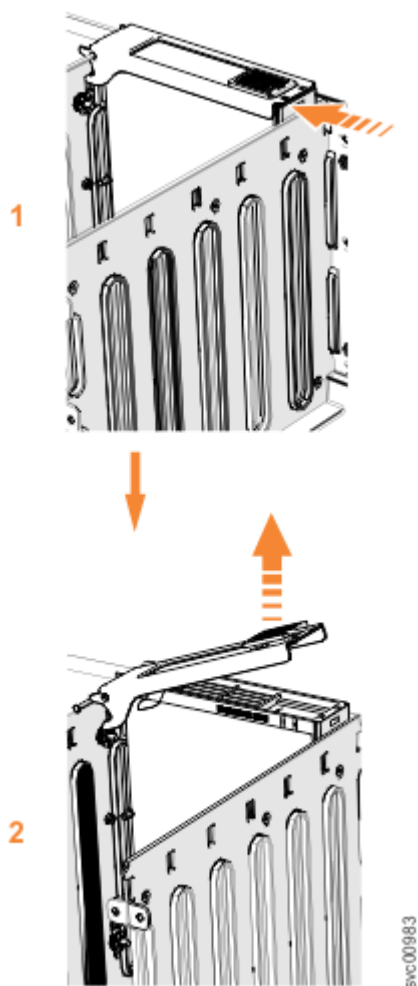

Figure 152. Remove the drive assembly
5. Slide the release latch forward (1), as shown in Figure 152 on page 186.
6. Lift the handle (2) to unlock the drive carrier from the partition, as shown in Figure 152 on page 186. Ensure the toe on the bottom of the latch is fully disengaged.